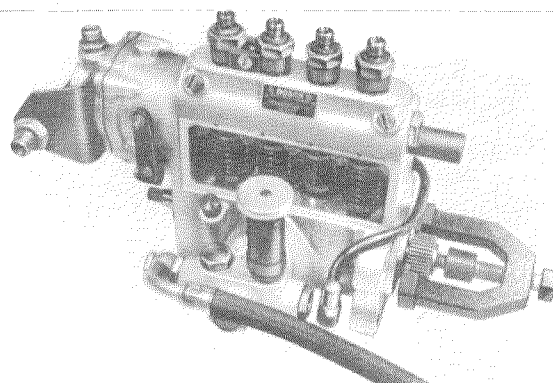

Figure 07-11/1
housing cover with a chisel or drawing needle (2) (see Figure 07-11/5). This makes for easier adjustment of the pump during installation, and often saves readjustment of feed begin.
No. 6365890033, off the injection pump shaft (see Figure 07-11/1) and take the Woodruff key out of the groove.